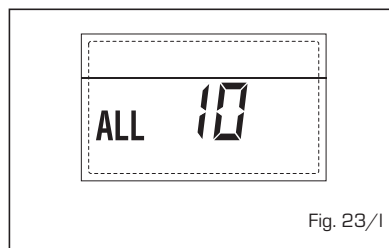

Fig. 23/l
- ACTIVATION OF THE "ALL 13" EXHAUST FUMES PROBE (fig. 23/p)